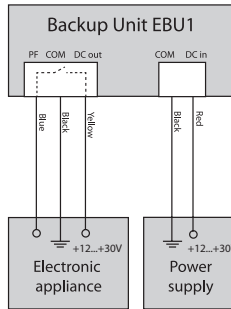

Fig. No. 2
2. Connect the circuit as shown in Fig. No.2. Power supply cables are connected last. Electronic appliance power supply must be disconnected before connecting EBU1.